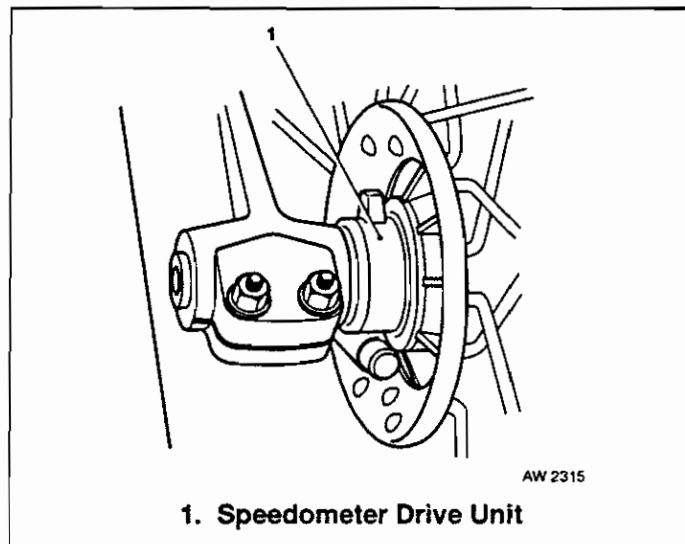

Fig 11.5 Speedometer Drive Unit
(1) Axle nut	68 (50)
(2) Slider pinch bolt nuts	7 (5 ft/lbs)
- c. Fig 11.5 refers. Position speedometer cable drive unit on wheel hub. Be sure both parts are completely engaged.